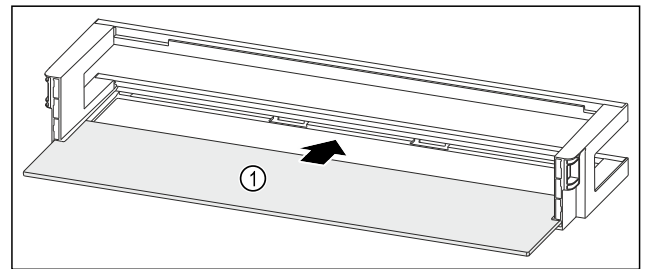

Fig. 204 Door rack with shelf
- ▶ Push the shelf Fig. 204 (1) into the side recesses.